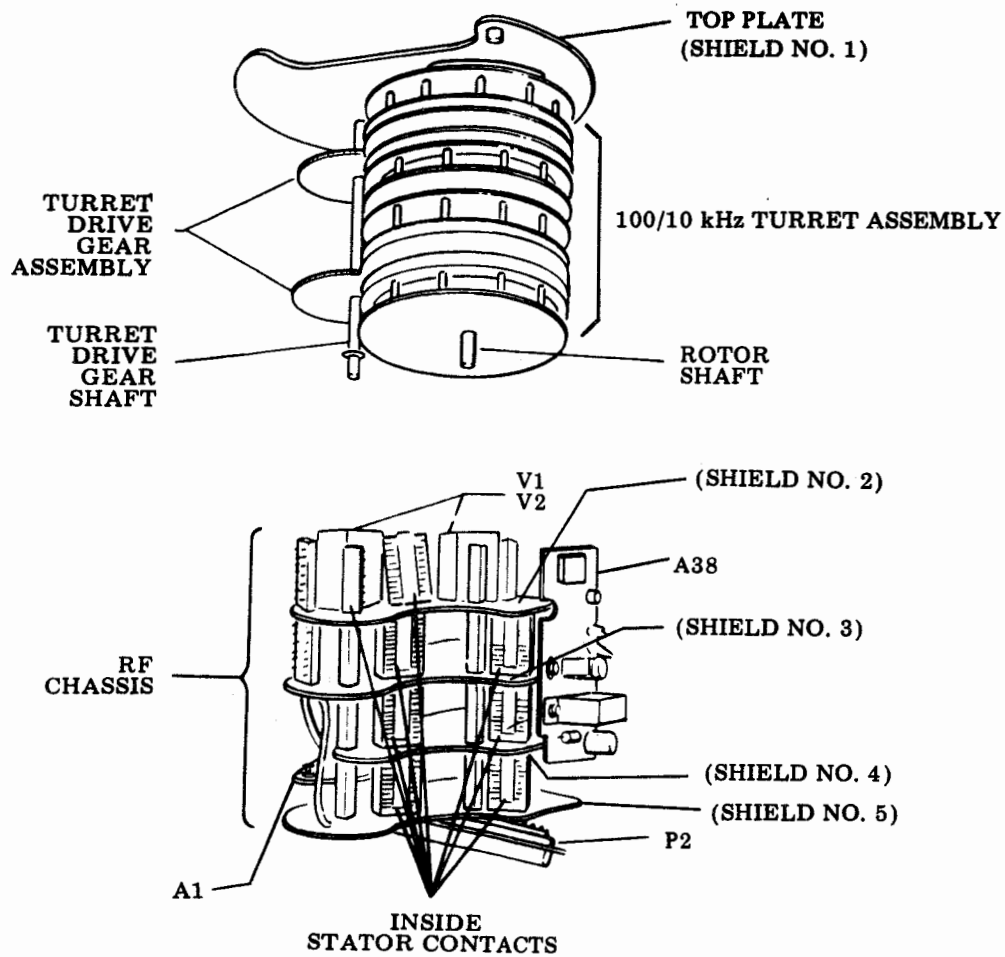

Figure 6-10. RF Amplifier Assembly A2A4, RF Chassis and Turret Assembly, Disassembly Parts Location
4. To disassemble rf chassis (see figure 6-10):
6. To remove gears from the turret drive gear assembly (figure 6-10):